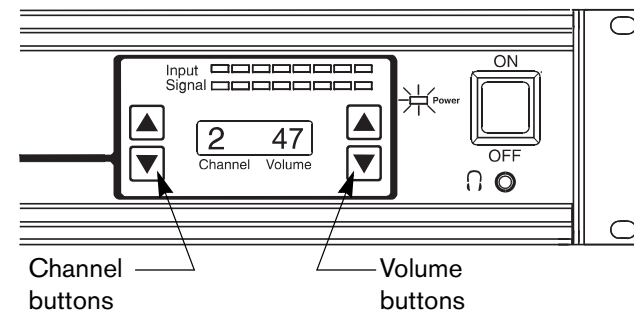

Figure 8: Use Channel and Volume buttons to adjust sound levels for each channel
6. Use the Channel ▲ and ▼ buttons to select the desired channel. The display shows the current channel selection (on the left). If you are initially installing the distribution unit, start with channel 1 so you can move sequentially through the channels. If the selected channel has little sound, such as quiet conversation or a soft passage of music, wait for a normal signal before continuing. See Figure 8.
7. Use the Volume ▲ and ▼ buttons to adjust the sound to a comfortable level. As you press the buttons, the numbers on the right in the display change. Observe the Input Signal lights and adjust the sound as high as possible without causing the red lights to come on. You have gone too far if the red lights flash frequently or glow solidly. In this case, reduce the volume until the red lights barely flash. See Figure 8.